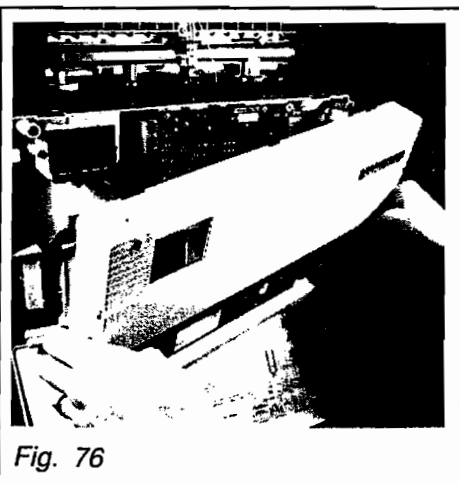

Fig. 76
- (c) Open control panel cover and remove boiler thermostat control knob by pulling it off the spindle. Carefully separate outer plastic panel from inner one. Fig.76.